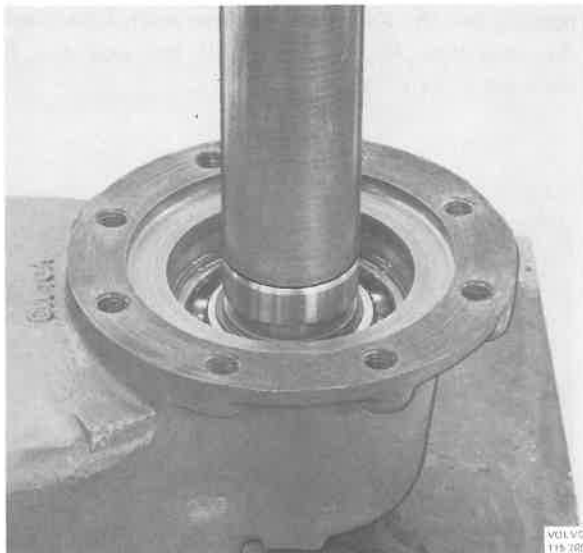
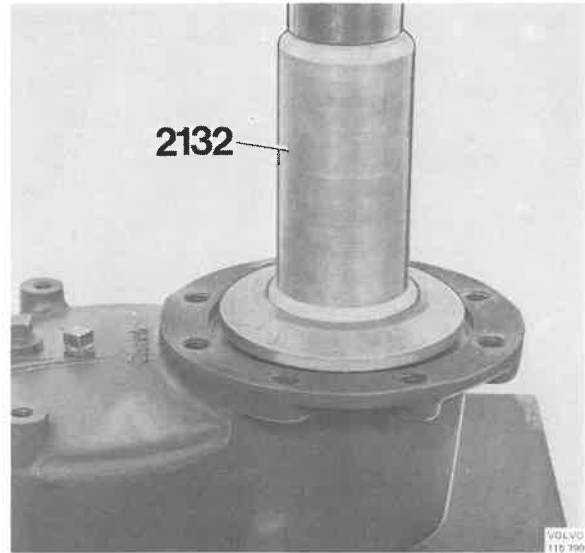

fig. 46-116. Pressing in the wear ring
Fig. 46-117. Pressing in the seal
6. Press the wear ring into gear wheel, Fig. 46-116. Grease the sealing ring surface. Press down the seal with 2132, Fig. 46-117.